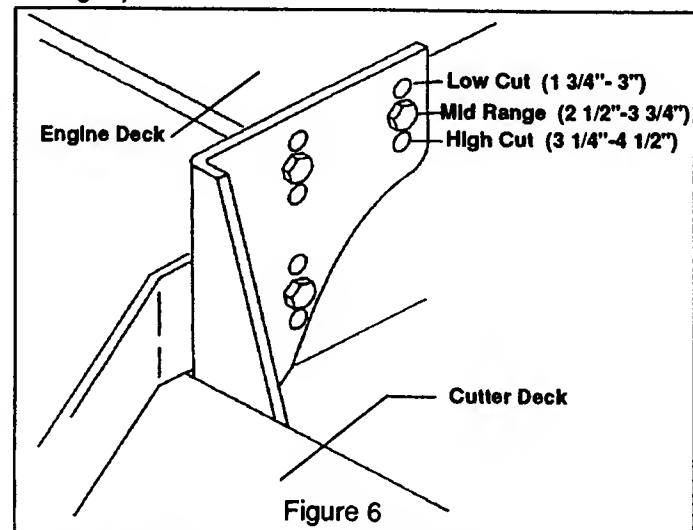

Figure 6
- Before beginning, determine which mounting holes are to be used to best suit the cutting height requirements of your customer. High/Medium/or Low ranges (see fig. 6).
Additional range to the cutting height can be achieved by repositioning the cutter deck in relationship to the engine deck (This adjustment can also effect the pitch of the deck). There are 3 positions (see figure 6), suggested mounting is the middle holes. For cutting lower, mount the deck in the top holes. To cut higher, mount the deck in the bottom holes.